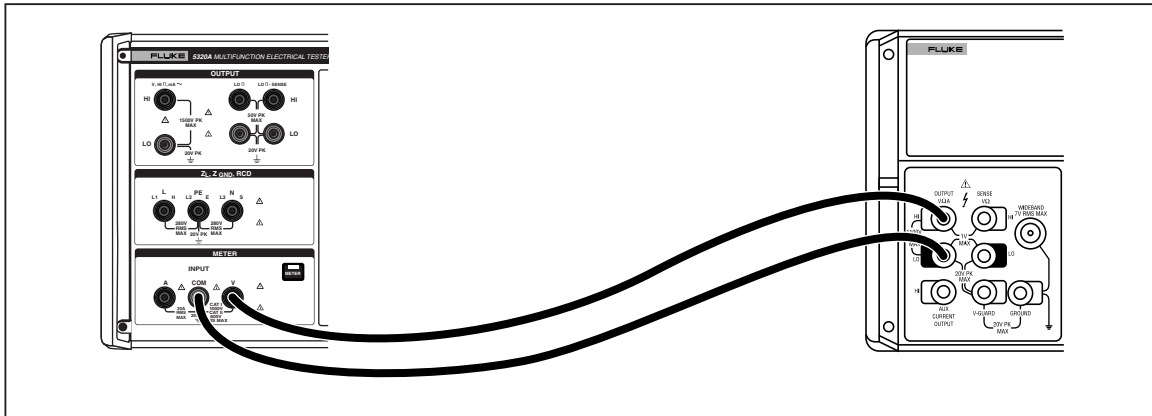

Figure 3-16. AC Multimeter Voltage Calibration Connections
1. Connect the Fluke 5220A to the Calibrator's output terminals as shown in Figure 3-16.